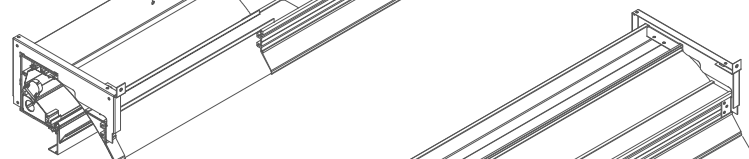

FIG. 2
3. IF FIXTURE IS EQUIPPED WITH LAMP BARRIER, ROTATE DOWN SEE FIG 2 & 2A.